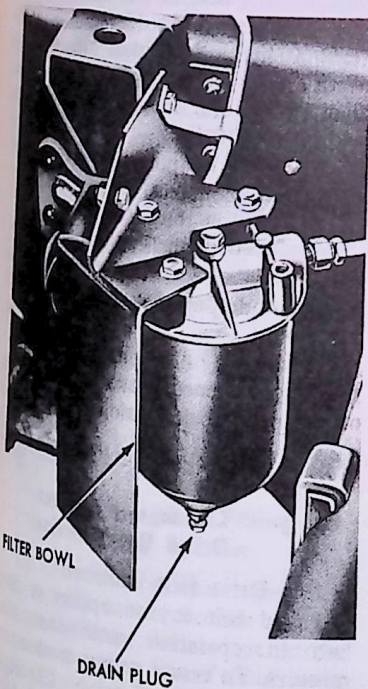

FIG. 69 Fuel Filter Installation—850-900 Series—with Electric Fuel Pump
1. Remove the drain plug from the filter bowl, and drain the fuel from the bowl into a suitable container (Fig. 69).